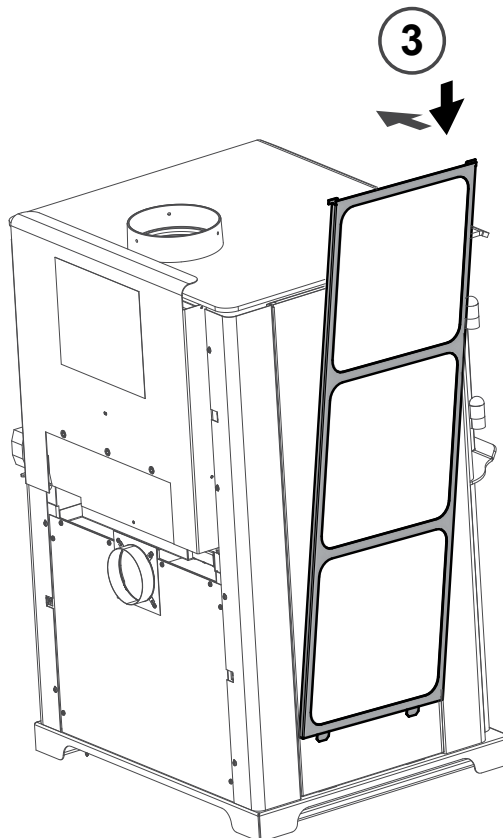

Figure 21.4
4. Reattach tile frame (**Figure 21.4**).